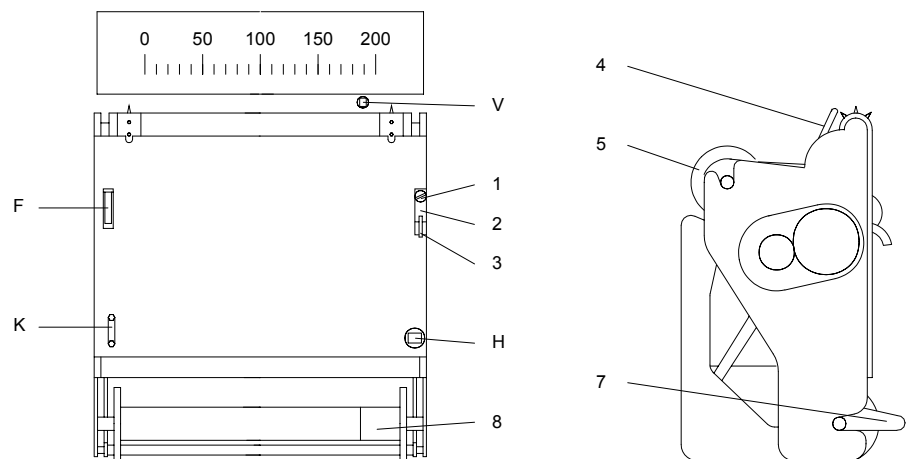

Figure 10 Paper drive mechanism for type 230.01, 240.0, 340.0, 340 RNR, 341.0, 361.01
The adhesive strip must be entirely removed. The transportation lock roller is inserted instead of the delivery roller 5 (figure 10). It should be kept for future dispatch. At the device with transportation lock, the delivery roller is in the separate cardboard box.
5.1 Paper drive mechanism according to figure 10
Release the middle piece of the holder. Compress the fibre pen holder, remove the holder from the recording lever cradle and take out the pen. Loosen screw 1 figure 10, lift transportation lock 2, turn transportation lock 180° and tighten the screw again. Lift lever 3 and swing the transport mechanism forward as far as it will go. Lift clip 4. Insert the recording chart roll (cardboard tube) on the delivery roller firmly so that the carrier centre enters into the cardboard tube. (The round perforation of the chart paper must contact the left side of the disk). Insert the delivery roller true-sided (mechanical stop left on the roll). Pull the paper forward and insert the perforation on the pin roll. Fold back the clip 4 and swing the recording mechanism in position. Lift the pawls 7 and remove the shaft axle 8. Fold the paper tip into a pointed shape. Insert the paper tip into the wide slot of the shaft axle and wind up some turns of the reel. The form closure of the two-piece shaft axle must be kept! Install shaft axle again.
Hand-wind paper drive mechanisms are wound up **only** with the supplied crank at the square (square socket for types 230.01, 240.0, 340.0, 340 RNR, 341.0 and 361.01 according to figure 10; male square for recording mechanisms according to paragraph 5.2). Wind up the recorder by clockwise rotation, not till stop position! Pressing the switch starts chart travel in hand-wind- and synchronuous motor recorders.
7.3.1 Continuous-chart pen recorders according to figure 10